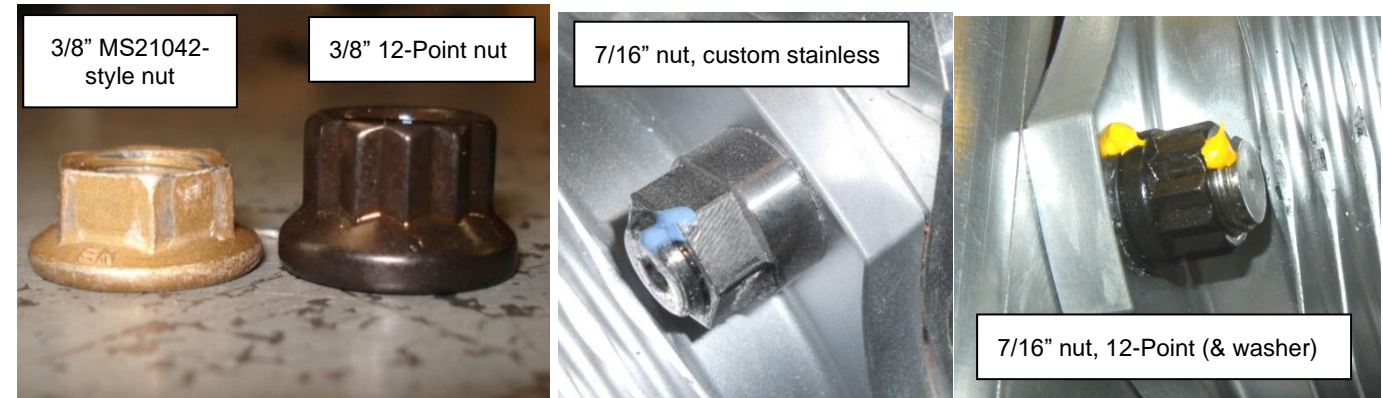

Figure 145 – 12-Point Nuts, 7/16” Hardware (on right)
- Later engines (See Section 12 for serial number ranges) use 7/16” hardware on the engine through bolts and studs. On these parts a custom-made nut (shown in Figure 145) is used. At overhaul these are to be removed and 7/16” 12-point nuts & washers fitted (Figure 145 right).